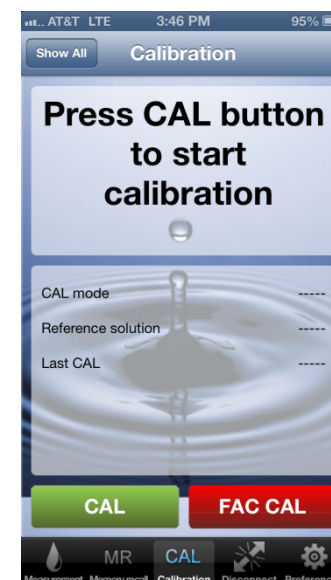

Figure 31
During and immediately after any calibration is performed the App's screen will display the following (see Figure 31).
- The Initial Calibration Screen will appear with the message (see Figure 31), "Press the CAL button to start calibration".
- The Initial Calibration Screen will appear with the message (see Figure 31), *"Press the CAL button to start calibration"*.